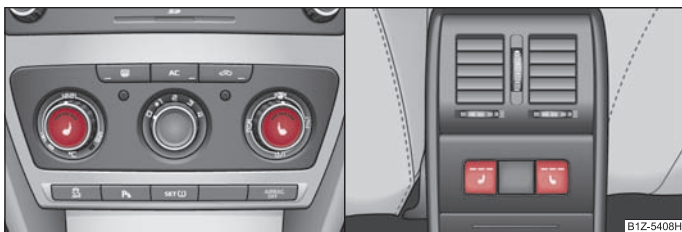

Fig. 64 Regulator for heating the front seats/rear seats
- You can switch on and regulate the seat heating of the driver or front passenger seat by pressing the surface of the regulator at the point at which the symbol is located ➡ ⇒ fig. 64 - left.
- You can switch on and adjust the heaters of the left or right rear seats by pressing the regulator ➡ ⇒ fig. 64 - right.